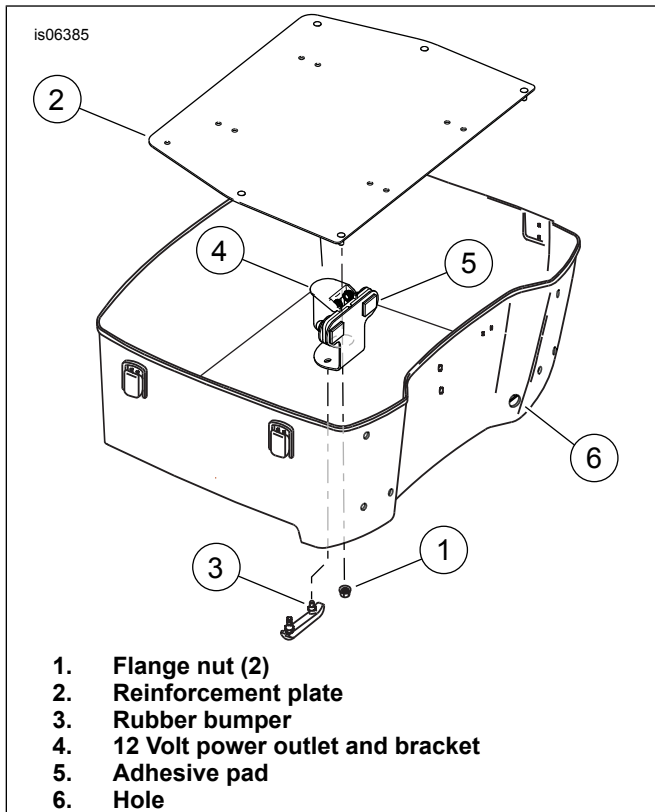
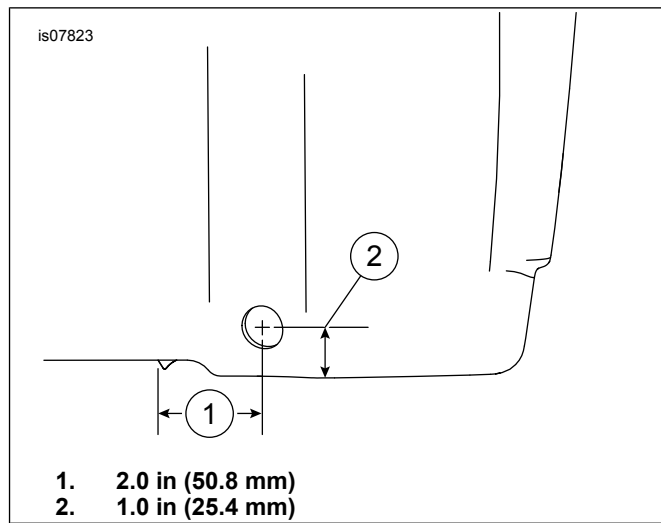
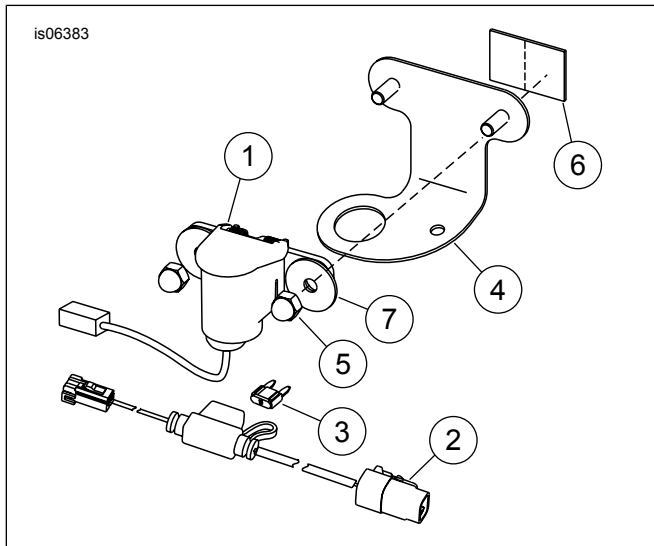

Figure 2. Installation without Speaker Pod
Figure 3. Drill Hole in Lower-Front of Tour-Pak
Figure 5. Service Parts: 12 Volt Power Outlet
See Figure 5 and Table 1.
1. See Figure 5. Install 12 V outlet (1) onto the outlet bracket (4) and secure with acorn nuts (5) and washers (7). Tighten acorn nuts to 2.8–4 N·m (25–35 in-lbs).
3. See Figure 2. Remove two nuts (1) from under the Tour-Pak. Save hardware.
5. See Figure 5. Install the adhesive pad (6) to the outlet bracket (4).
- a. Cut the adhesive pad (6) in half.
- d. See Figure 2. Install the pad (5) to the back of the outlet bracket over the stud location.
6. See Figure 2. Lift reinforcing plate (2). Install the outlet bracket (4) over the large boss under the front right corner of the plate. The large hole in the bracket locates over the boss. The small hole locates over the rubber bumper (3) tab.
1. See Figure 5. Connect the two-way connector of the Tour-Pak harness (2) to the outlet.
2. See Figure 2. If no hole (6) exists, drill a 13 mm (0.50 in) diameter hole in location shown in Figure 3. Install grommet (57978-63) (not included).